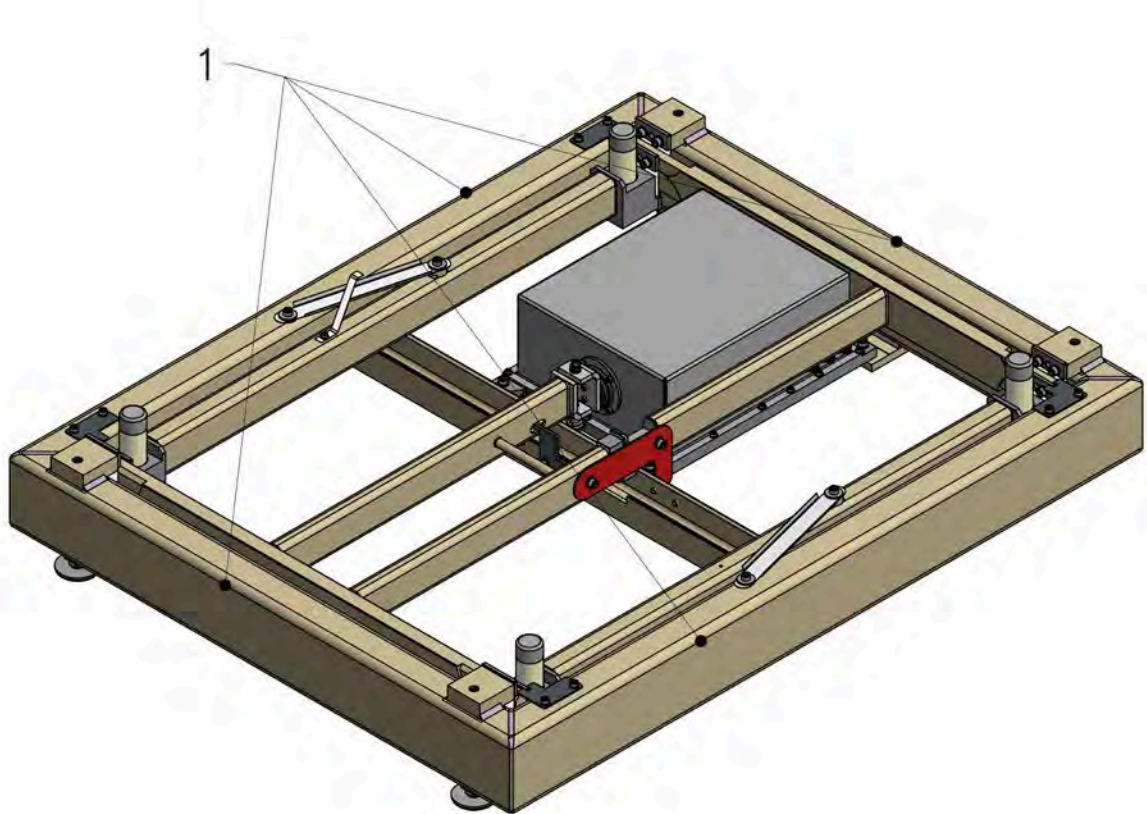

Fig. 1
1. When removing the scale out of its packaging make sure that you touch „OUTER FRAME (1)” only. (Fig.1)